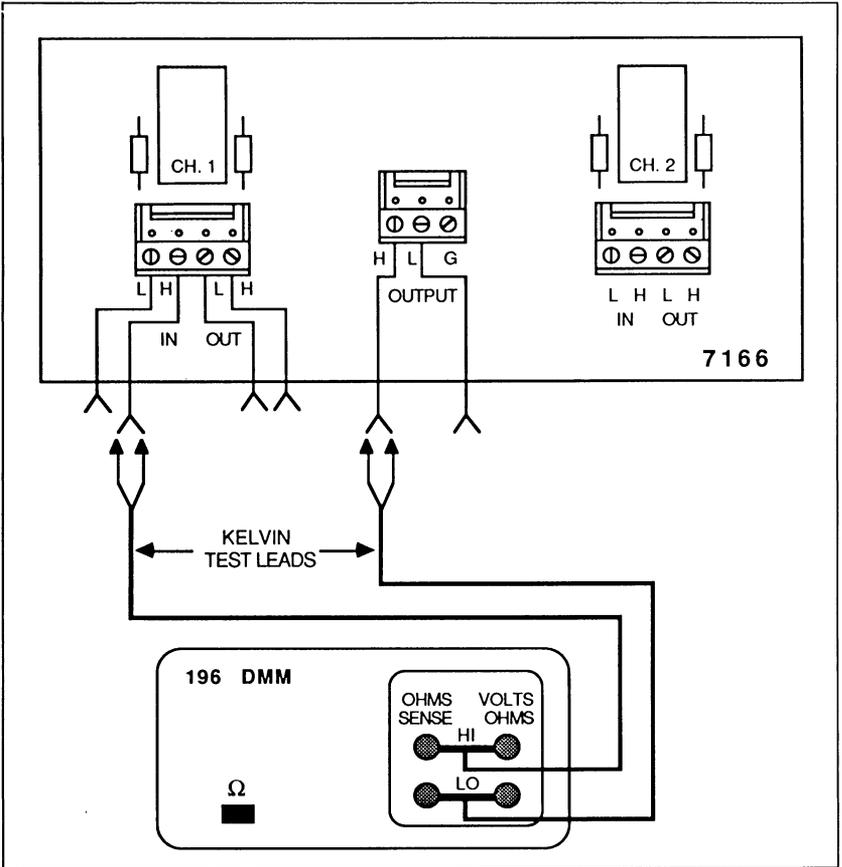

Figure 3-1. Performance Verification Setup
1. Wire up a channel terminal block and the Output terminal block with two copper wires on each terminal. See Figure 3-1. Use wires long enough to be clamped on the card and exit the scanner if an extender card is not available.
4. If the jumper is present for the channel HI pole, connect the Kelvin test leads across the card's Output High and the channel's Input High. Figure 3-1 shows these connections for Channel 1.